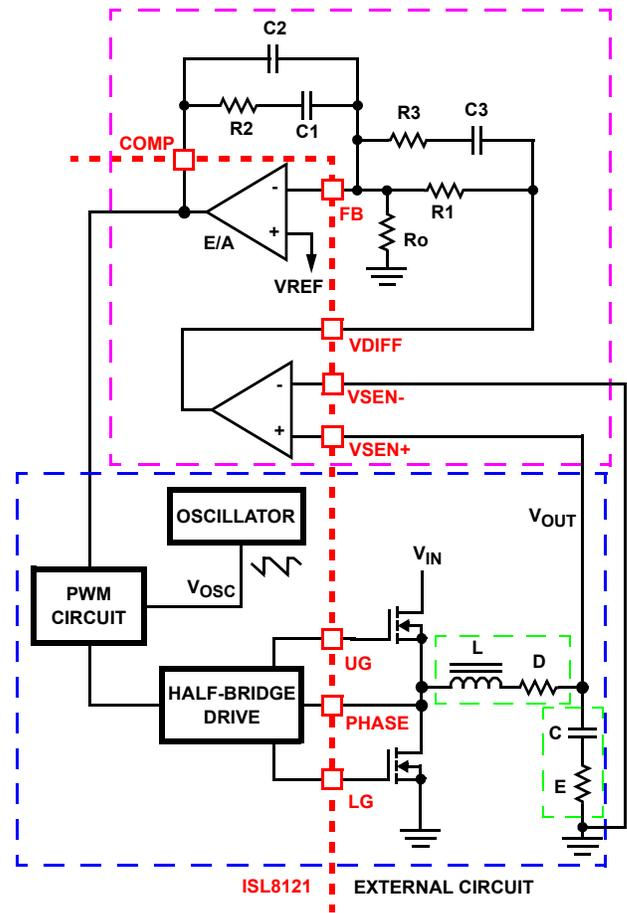

FIGURE 24. VOLTAGE-MODE BUCK CONVERTER COMPENSATION DESIGN
Figure 24 highlights the voltage-mode control loop for a synchronous-rectified buck converter, applicable, with a small number of adjustments, to the multi-phase ISL8121 circuit. The output voltage (V_{OUT}) is regulated to the reference voltage, V_{REF} , level. The error amplifier output (COMP pin voltage) is compared with the oscillator (OSC) modified saw-tooth wave to provide a pulse-width modulated wave with an amplitude of V_{IN} at the PHASE node. The PWM wave is smoothed by the output
1. Select a value for R1 (1kΩ to 5kΩ, typically). Calculate value for R2 for desired converter bandwidth (F₀). If setting the output voltage via an offset resistor connected to the FB pin, R_o in Figure 24, the design procedure can be followed as presented. However, when setting the output voltage via a resistor divider placed at the input of the differential amplifier, in order to compensate for the attenuation introduced by the resistor divider, the